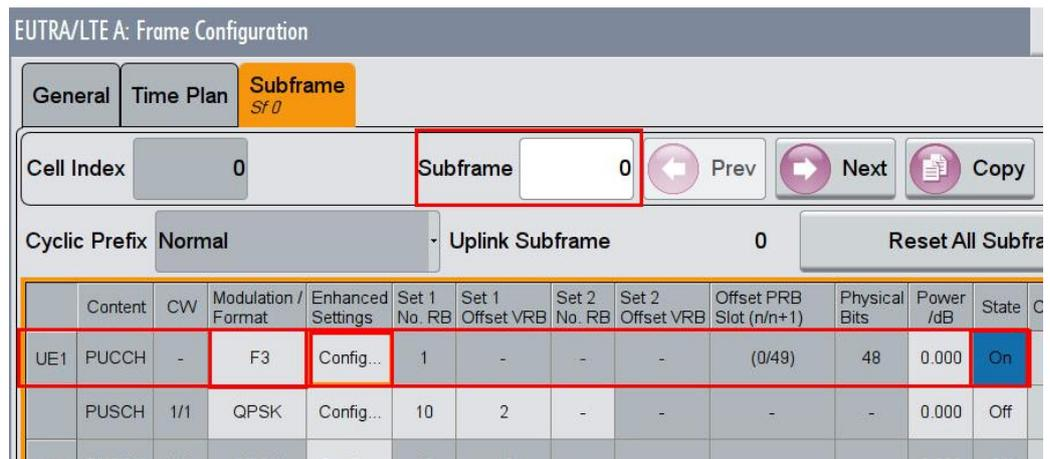

Fig. 3-125: PUCCH with format F3 in subframe 0
6. Set for the PUCCH the Format to **F3** and the state **On** (Fig. 3-125)